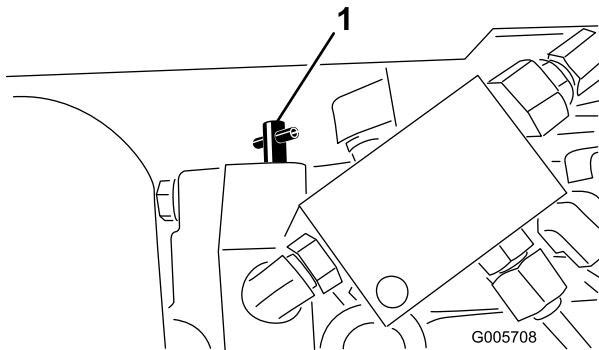

Figure 34
- Reach under traction unit and rotate bypass valve (Figure 34) 1/2 to 1 turn counterclockwise. Opening the valve opens an internal passage in the transmission, thereby bypassing transmission oil. Because fluid is bypassed, traction unit can be moved without damaging the transmission.